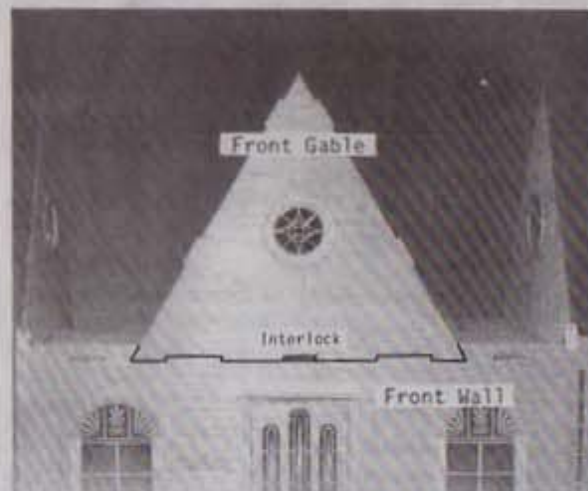

Figure 11
9. Install and glue Front Gable into Front Wall as in Figure 11.